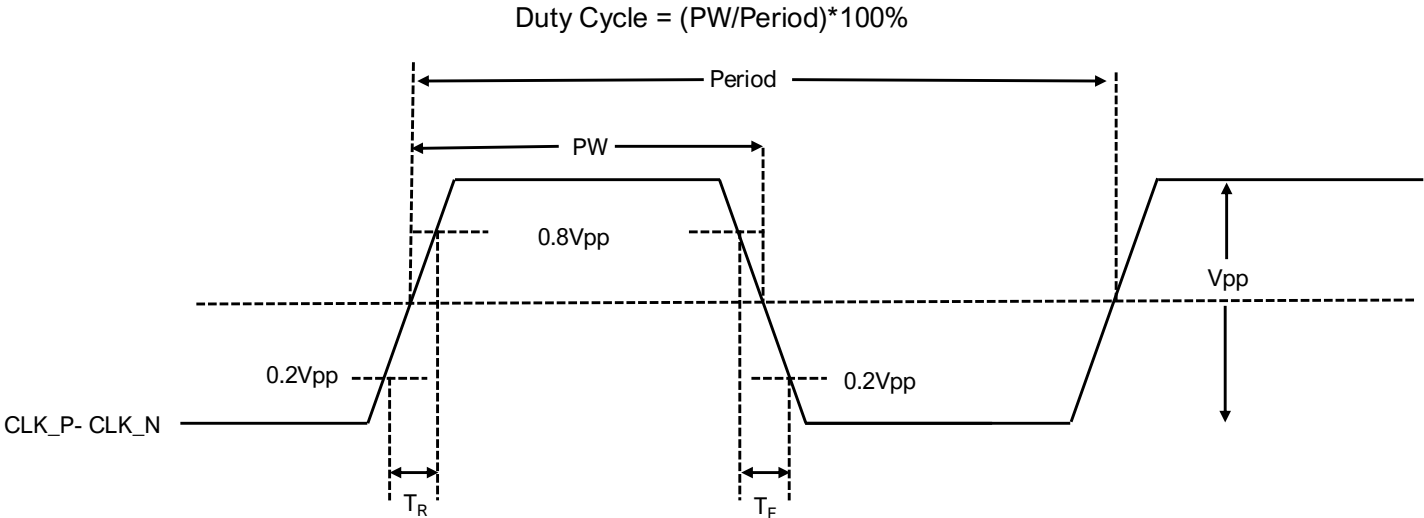

Figure 13. Output Timing across differential pair (CLK_P-CLK_N)
- Updated Figure 13: Output Driver (HCSSL); removed AC coupling